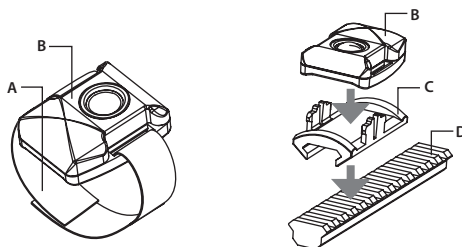

FIGURE 3-2. ADVANCED WIRELESS REMOTE CONTROL
Using the supplied Velcro tape (A, Figure 3-2), fasten the remote control (B) to an easily accessible place.